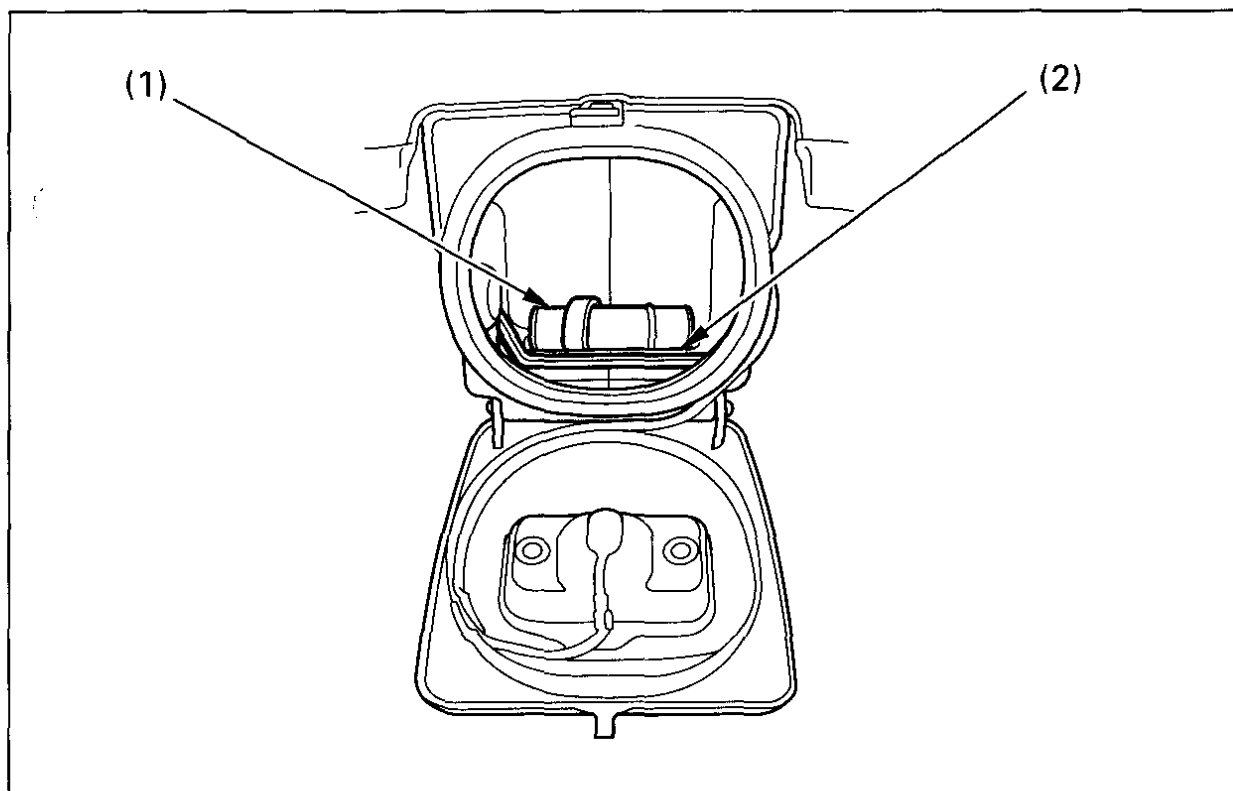

Fig. 4-1
A tool kit (1) (Fig. 4-1) and gear change tool (2) are provided with your FOURTRAX and stored in the storage compartment below the rear cargo rack.